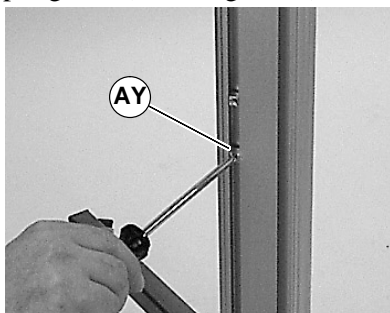

Figure 30
2. Insert spring nuts (AY of Figure 30) into stand post.